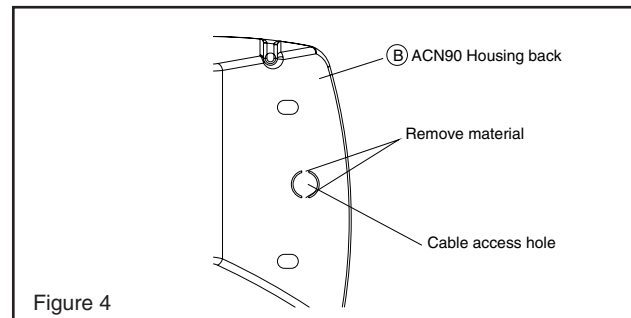

Figure 4
- If you are not using the center cable access hole, carefully remove either the right or left knock-out found on the ACN90 housing back (B) (Figure 4) using a utility knife.